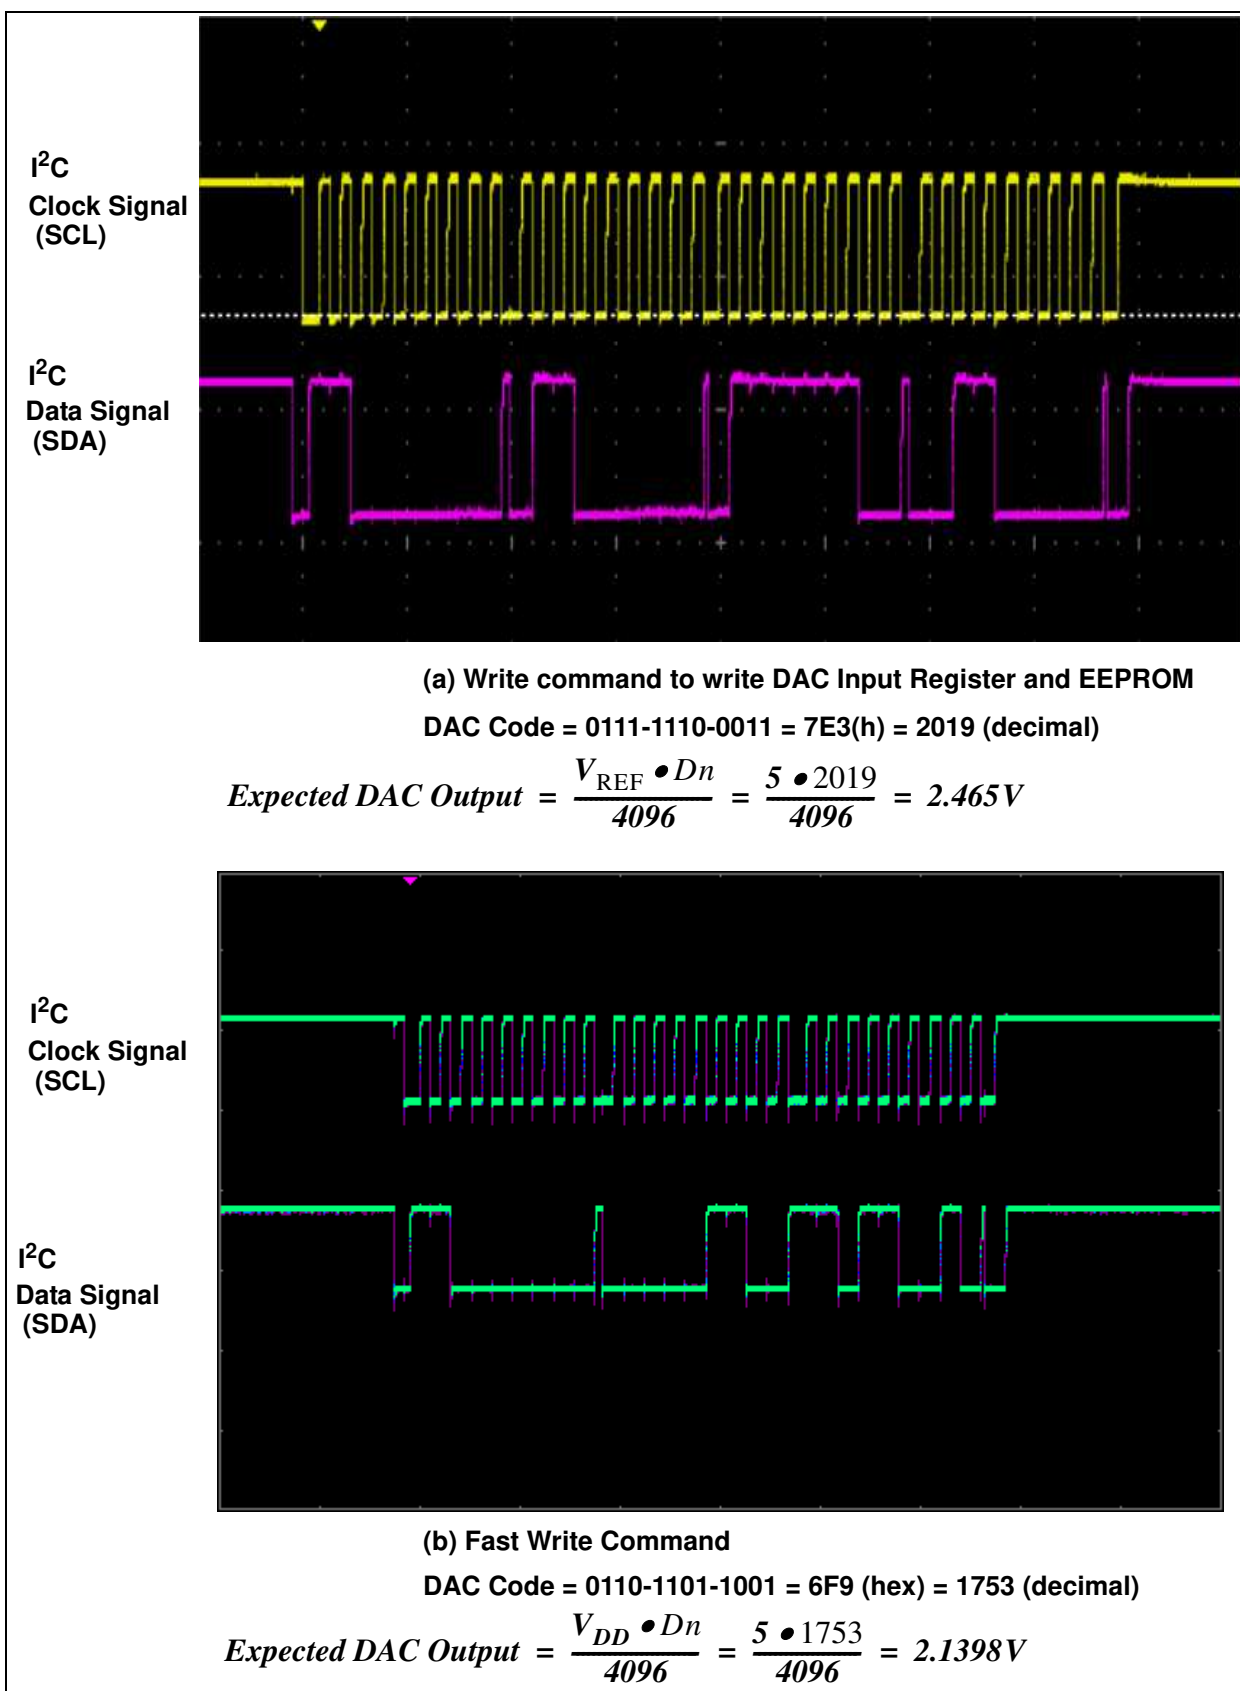

FIGURE 1-6: I²C Write Command Waveforms for the MCP4726, with $V_{\text{REF}} = V_{\text{DD}}$ and Gain = 1x.
- S4: Incrementing the DAC code using a write command (writing both DAC register and EEPROM). The DAC output can be monitored at the V_{OUT} terminal. See Figure 1-6 for the V_{OUT} waveform.